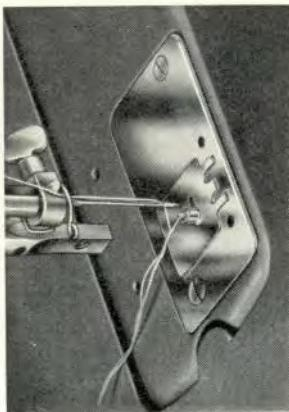

Fig. 44.
- Select eyelet embroidery cover plate with center stud matching the desired size of eyelet ( $\frac{1}{8}$ ",  $\frac{3}{16}$ " or  $\frac{7}{32}$ " diameter, fig. 44) and place it on the needle plate.